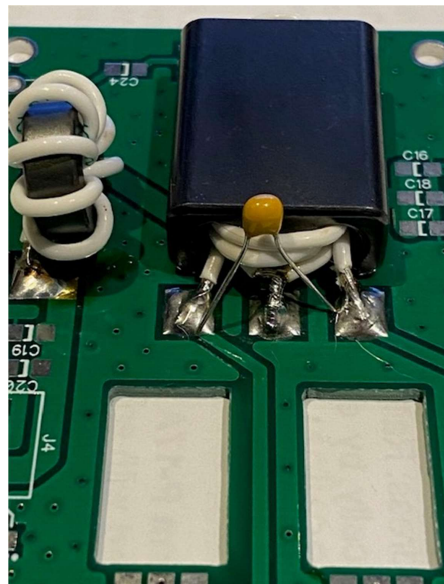

Figure 25. C24 At The Primary Of T3.
26. There is some variation in the mixes of the transformer cores, and that can cause slight variations in the frequency response of the PA. What you may see is less gain at 54Mhz than at 1.8Mhz. C24 (Figure 25) is specifically used to correct this situation and flatten the gain curve with frequency. The best way to select C24 is with a spectrum analyzer or watt meter, plotting the output of the amplifier with frequency for a fixed input of 1mw over that same frequency range.